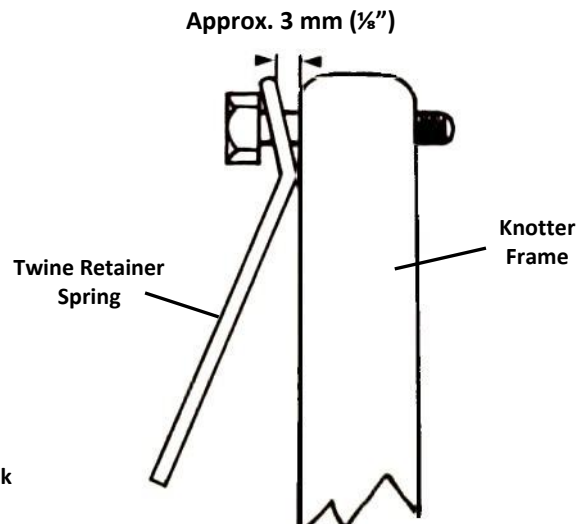

Fig.5.24 Recommended (*initial*) setting for (*New Holland*) Twine Retainer spring pressure
- Is the Twine Retainer pressure correct? (*Fig.5.24*)